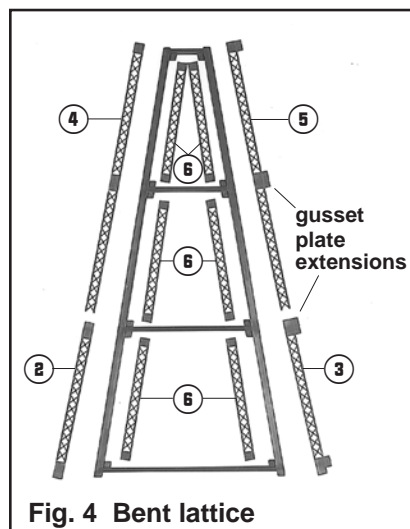

Fig. 4 Bent lattice
2. Trim the gusset plate extensions off parts (2), (3), (4), and (5).
Note in Fig. 4 that parts (2) and (4) are shown after their gusset plate extensions were trimmed off and parts (3), and (5) are shown before the extensions were trimmed off. Place the parts on the work surface with their
3. Cement the **outside bent lattice**, parts (2), (3), (4), and (5) to the bent assembly. Figure 4 shows their general position. (For clarity, the parts are shown flat in figure 4, they would actually be on edge if cemented to the bent halves.)
4. Trim the excess plastic from the gusset plates of parts (6), (7), (8), and (9) but not (10). Important: See III. Notes on page 1.
5. Cement the **inside bent lattice** parts (6) to the bent assembly. Figure 4 shows their general position.